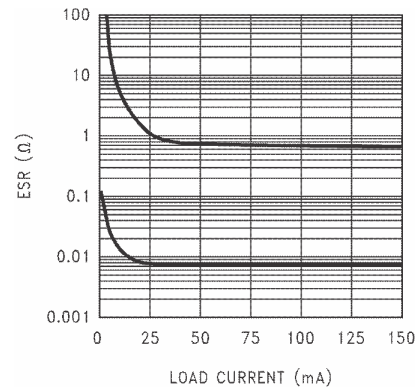
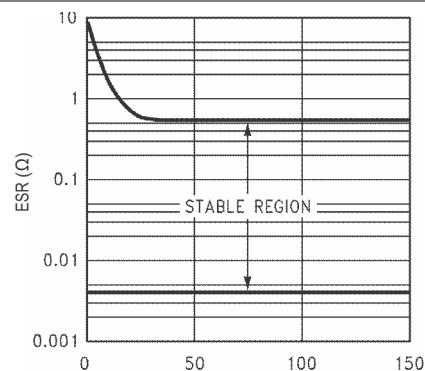

Figure 5-36. 2.2- μF Stable ESR Range for Output Voltage $\leq 2.3\text{ V}$ for Legacy Chip
FIG 5-38. 2.2- μF , 3.3- μF Stable ESR Range for Output Voltage $\geq 2.5\text{ V}$ for Legacy Chip
- ESR range: see Figure 5-36 through Figure 5-38